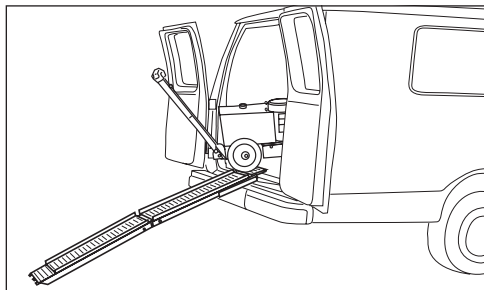

FIG. 2
2. Position machine at the back of the truck, in line with the ramp (Figure 2).